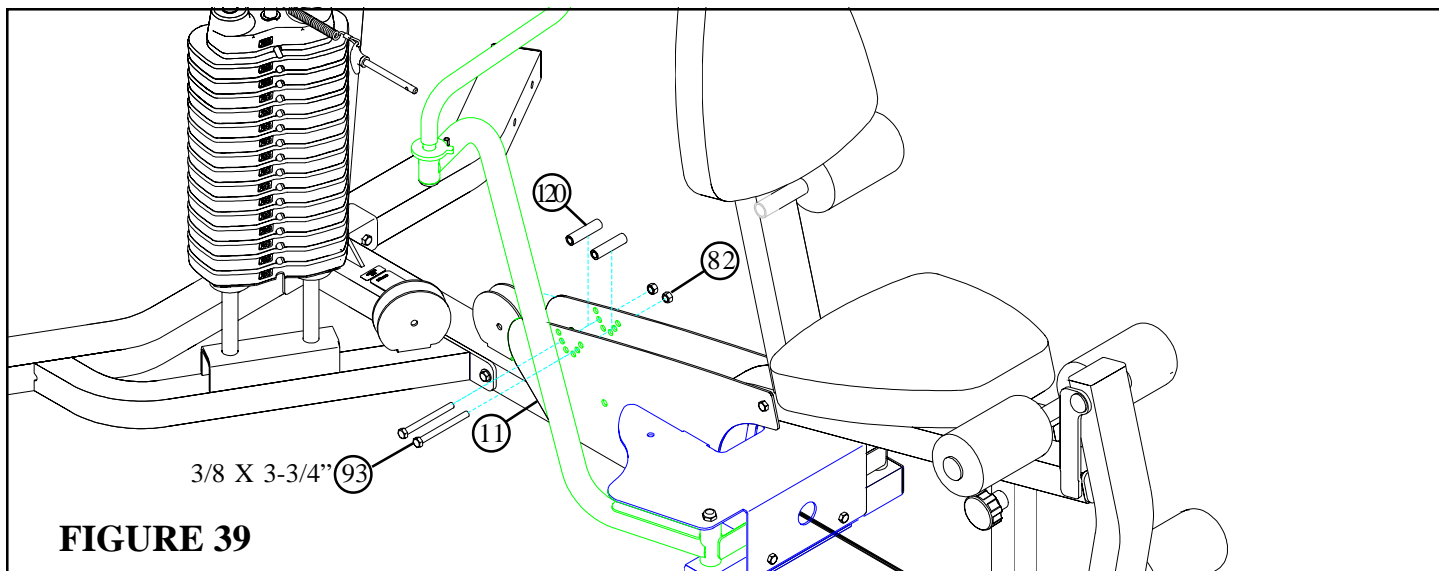

FIGURE 39
- **SECURELY** assemble two 3" NYLON SPACERS (120) to the BASE PLATES (11) using two 3/8 X 3-3/4" BOLTS (93) and two 3/8" LOCK NUTS (82) as shown in FIGURE 39.